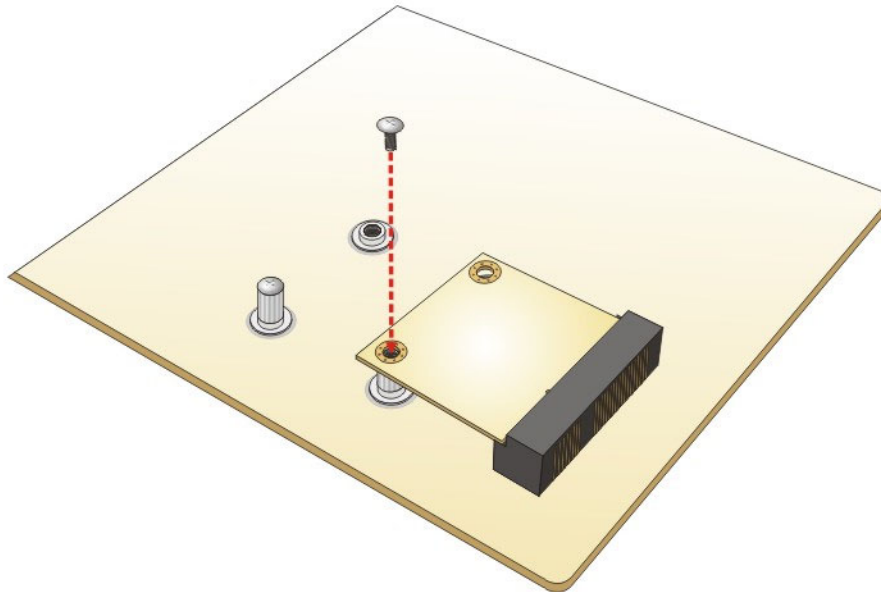

Figure 4-9: Securing the Half-size PCIe Mini Card
Step 6: Secure the half-size PCIe Mini card. Secure the half-size PCIe Mini card with the retention screw previously removed (**Figure 4-9**).